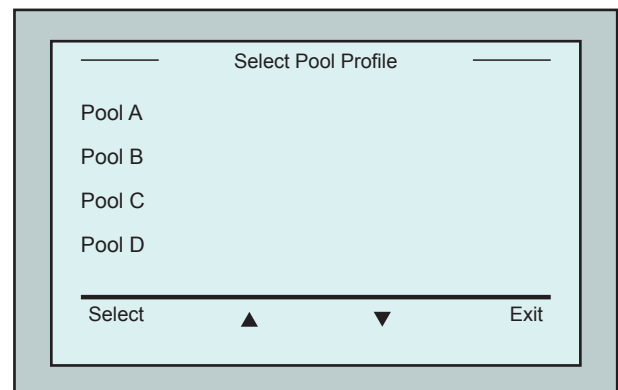

Figure 5: Pool Profile screen
2. Press Pool A to access the *Pool Profile* screen. The *Pool Profile* screen is displayed (Figure 5).